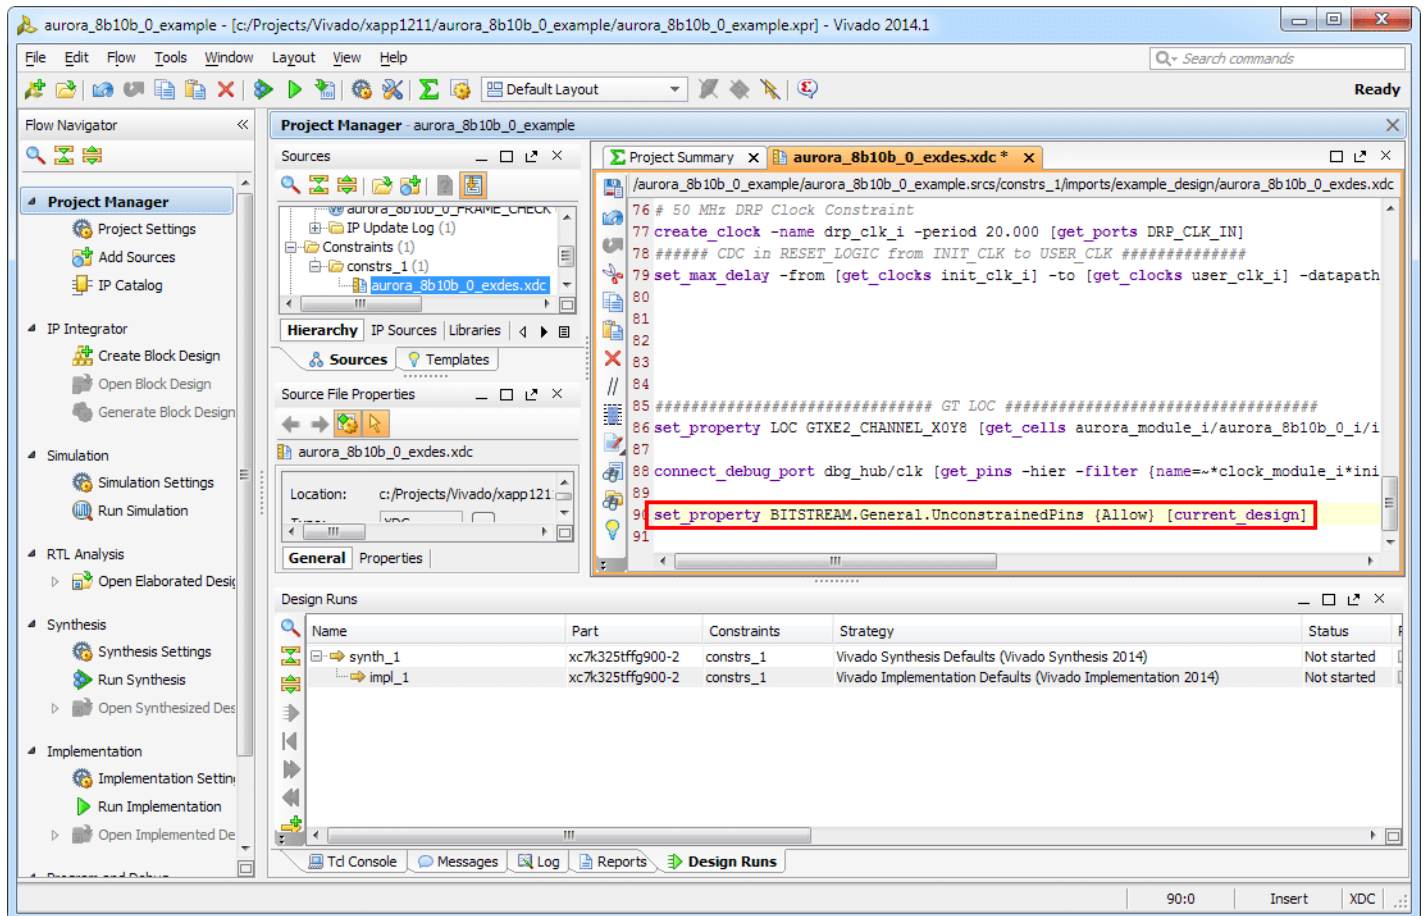

Figure 14: Aurora 8B/10B Simplex Unconstrained Pins Property
11. This example contains unconstrained pins. To permit bitstream file generation, add this line to the end of the constraints file (Figure 14):